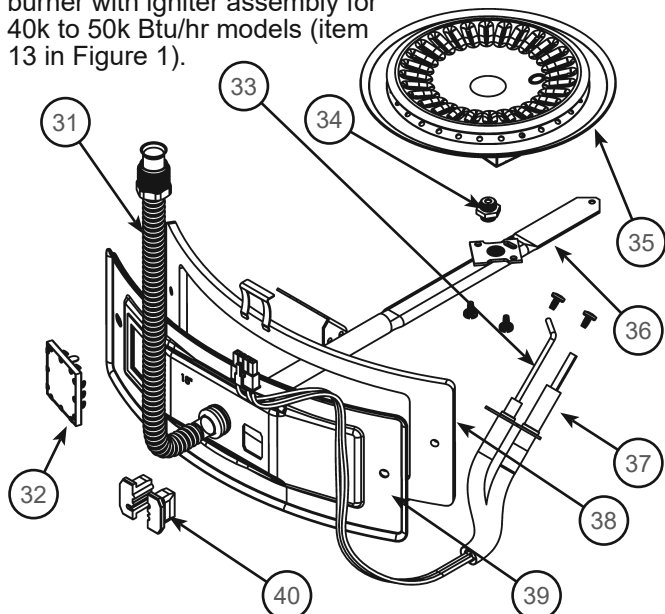
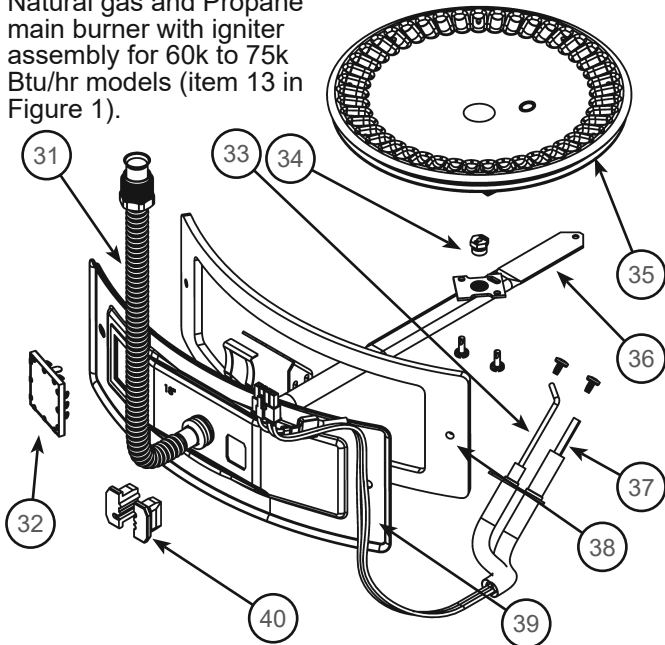
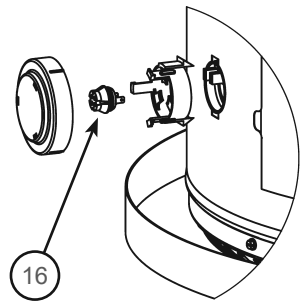
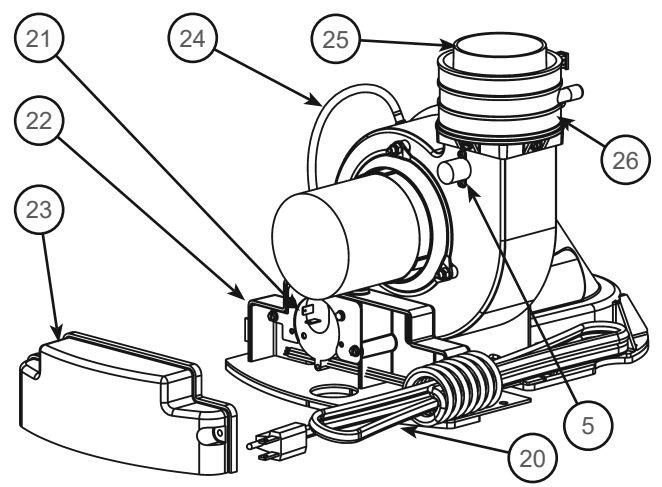

Figure 3.
Figure 4.
Figure 5.
Figure 6.
| 1 Vent Termination Elbow with Rodent Screen | 17 **Combo Heating System Return Inlet (Optional) | 34 Gas Orifice (see Figure 3 and Figure 4) |
| 2 *Vent Pipe | 18 Air Inlet Snorkel | 35 Sheet Metal Burner (see Figure 3 and Figure 4) |
| 3 *Vent Pipe Coupling (if required) | 19 **Combo Heating System Supply Outlet (Optional) | 36 Gas Manifold (see Figure 3 and Figure 4) |
| 4 *Vent Pipe Elbow (long radius) | 20 Blower with Power Cord (see also Figure 6) | 37 Hot-Surface Igniter (see Figure 3 and Figure 4) |
| 5 Blower High Limit Switch (see Figure 6) | 21 Air Switch (inside box) (see Figure 6) | 38 Manifold Door Gasket (see Figure 3 and Figure 4) |
| 6 T&P Valve | 22 Junction Box (see Figure 6) | 39 Manifold Door (see Figure 3 and Figure 4) |
| 7 Cold-Water Inlet Nipple/Diptube | 23 Junction Box Cover (see Figure 6) | 40 Two Piece Grommet With Clip (see Figure 3 and Figure 4) |
| 8 Baffle Assembly | 24 Air Tubing (see Figure 6) | 41 *Inlet Water Shut-off Valve |
| 9 * Discharge Pipe | 25 Rubber Coupling (see also Figure 6) | 42 *Gas Supply* |
| 10 Gas Control Valve/Thermostat (Resideo) | 26 Gear Clamp (see also Figure 6) | 43 *Main Manual Gas Shut-off Valve |
| 13 Manifold Door Assembly (behind outer door) (see Figure 3 and Figure 4) | 29 Anode (under cap) | 46 *Union (water connection) |
| 15 *Metal Drain Pan | 31 Flexible Manifold Tube (see Figure 3 and Figure 4) | 48 *Thermal Expansion Tank (required for all closed systems) |
| 16 Flammable Vapor Sensor (under cover) (see Figure 5) | 32 Viewport (see Figure 3 and Figure 4) | |
| | 33 Flame Sensor Rod (see Figure 3 and Figure 4) | |
This device is located on the blower (see Figure 6, item 5) and limits the maximum temperature of the blower. If the blower temperature rises above the temperature setting, the switch opens causing the heater to shut down. The switch will auto reset once the temperature drops sufficiently.
This device, located in the junction box, monitors the air pressure produced by the blower. In the event that the exhaust venting becomes blocked or sufficiently restricted, the switch will shut the heater down (see Figure 6, item 21).